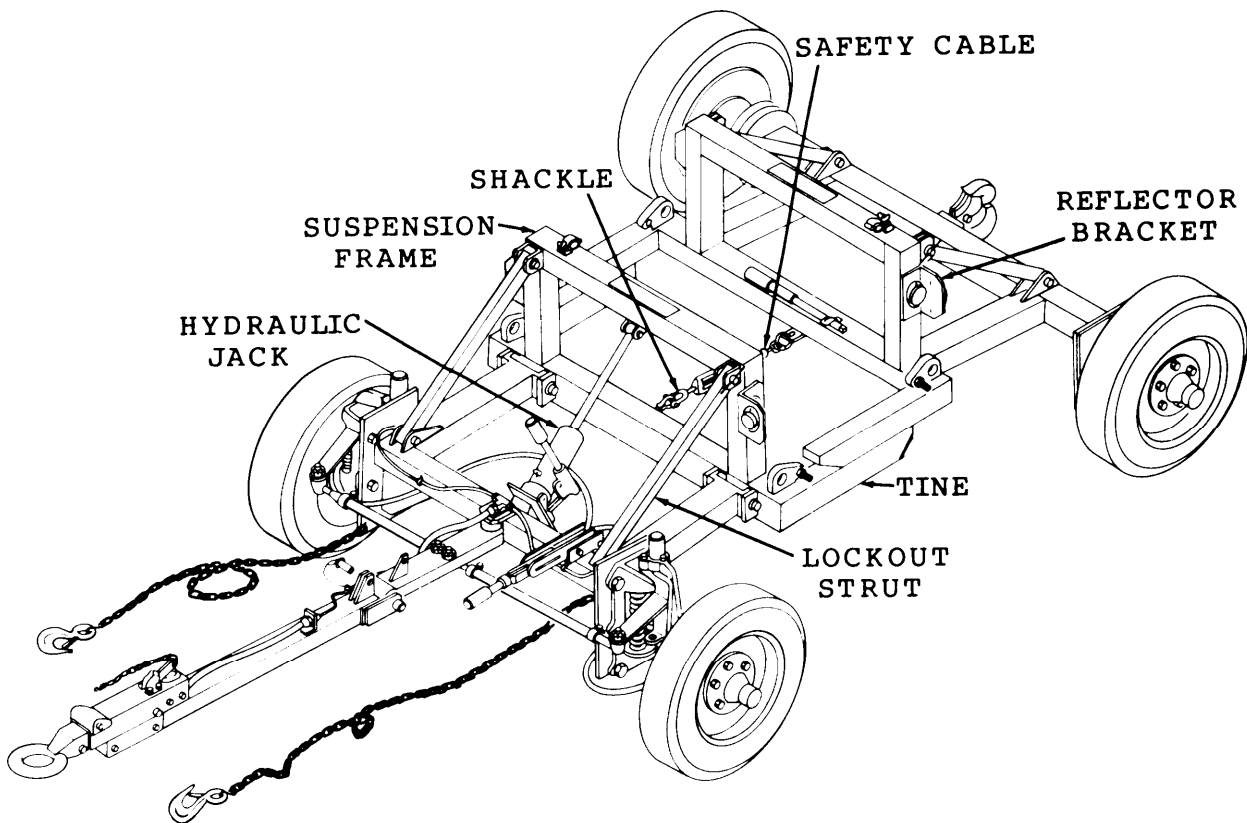

Figure 1-4. Suspension Frame Group Components.
- a. *Suspension Frame Group*. The suspension frame group (Refer to **Figure 1-4**) consists of the following parts: